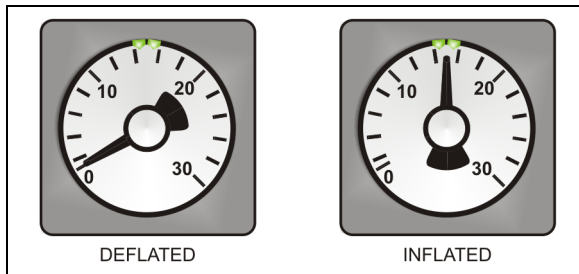

FIGURE 14: INFLATABLE SEAL PRESSURE GAGE
- Finally, the inflatable seal can be re-inflated by turning the shut-off valve handle counterclockwise. Check the pressure gage on the inflatable seal regulator to see if the pressure increases to 15 psi \pm 5 psi (Figure 14). Needle should be pointing between the two small green marks on the dial.
- Finally, the inflatable seal can be re-inflated by turning the shut-off valve handle counterclockwise. Check the pressure gage on the inflatable seal regulator to see if the pressure is increasing to 15 psi \pm 5 psi (Figure 14).